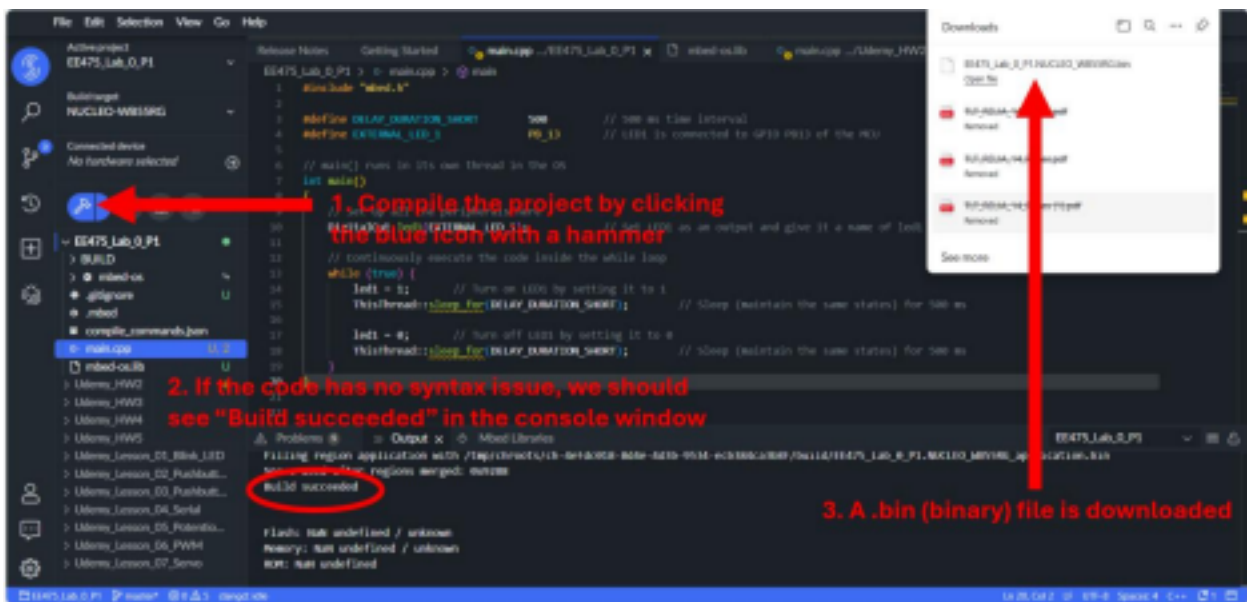

Figure 12
7. Compile the project by following the instructions in Figure 12. The first compilation can take some time, but subsequent compilations will be much faster.
3. Compile the project by following the instructions in Figure 12.